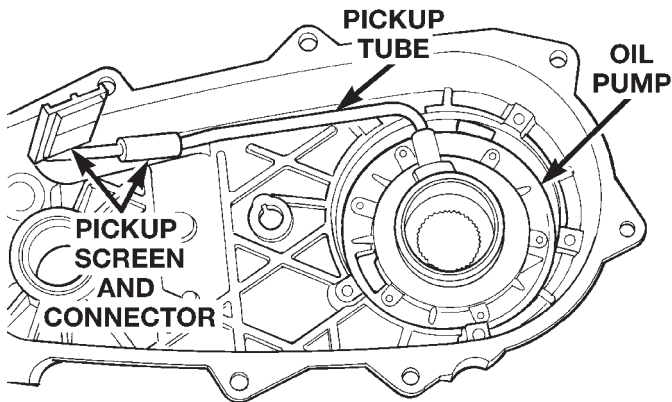

Fig. 72 Oil Pump And Pickup Tube Installation
- (4) Insert oil pickup tube in oil pump inlet.
- (5) Position assembled oil pump and pickup tube in rear case. Be sure pickup screen is securely seated in case slot. Also be sure oil pump locating tabs are outside rear case (Fig. 72).
- (6) Apply 3 mm (1/8 in.) wide bead of Mopar® gasket maker or silicone adhesive sealer to mounting flange of front case. Work sealer bead around bolt holes.
- (7) Lift rear case and oil pump and carefully position assembly on front case. Be sure case dowels are aligned and that mode fork rail extends through rear case before seating rear case on front case.